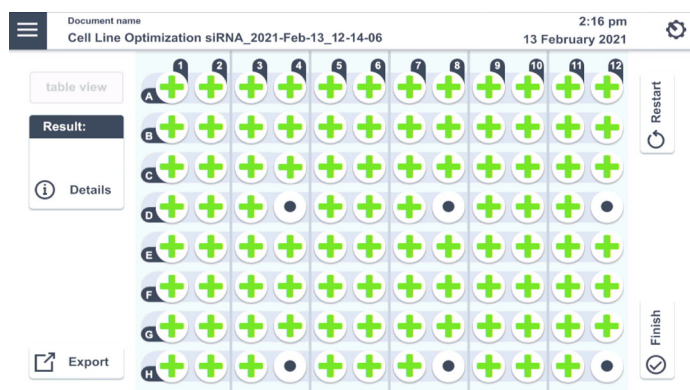

Figure 2.33: Example of a result file.
2. When the experiment is complete, a result file summarizing the Nucleofection® Process will be displayed (Figure 2.33).